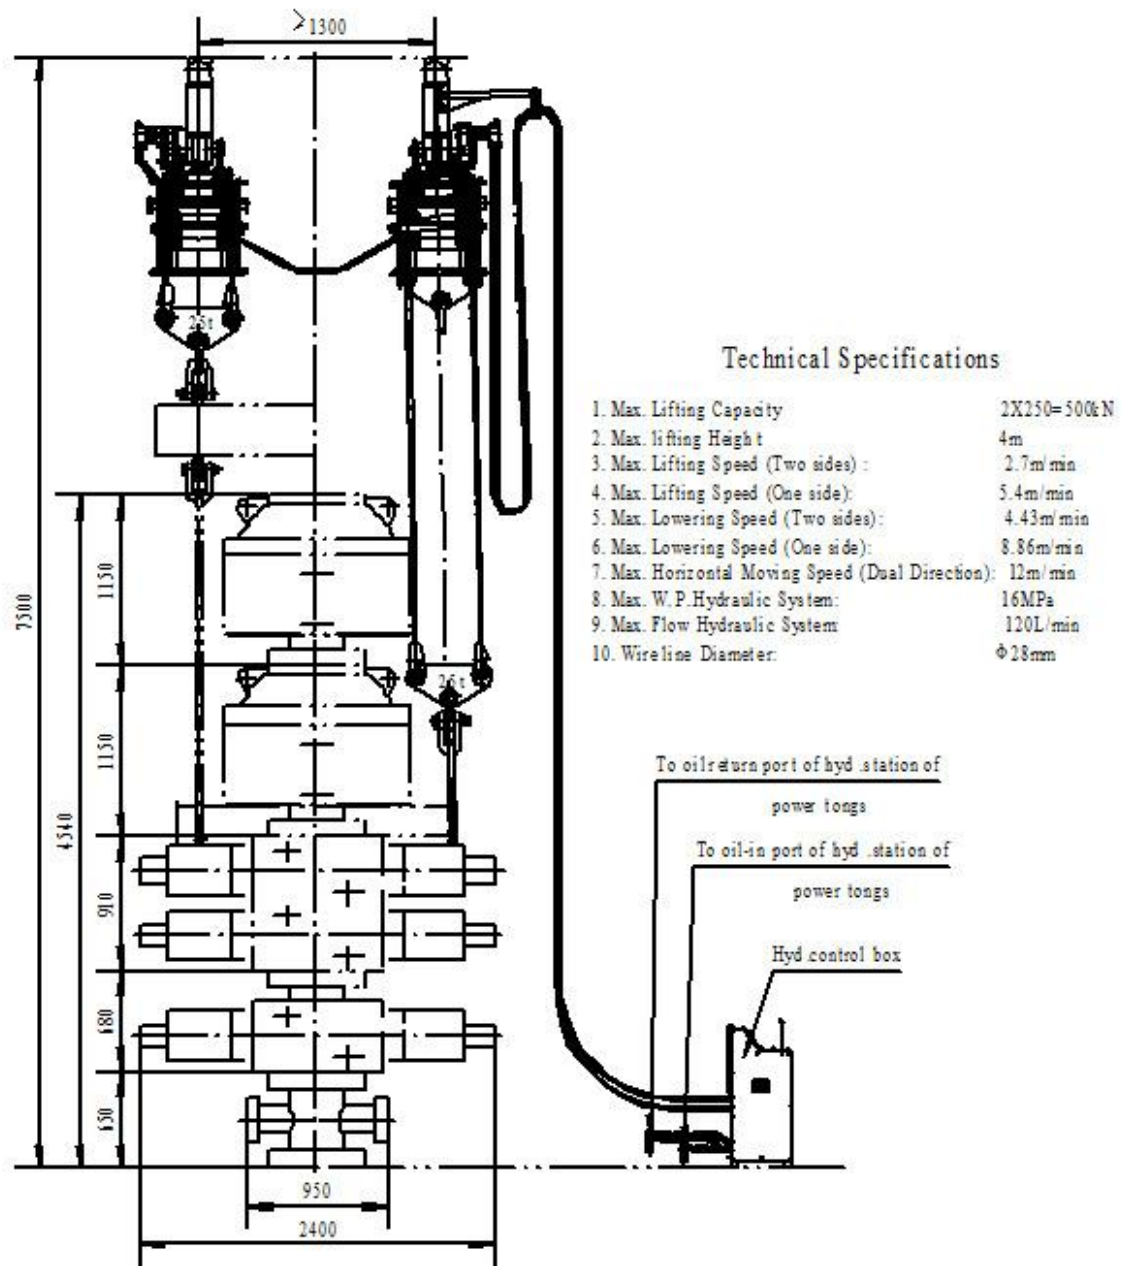

Fig.1: Lift Diagrammatic Sketch
1. Fig.1: Lift Diagrammatic Sketch